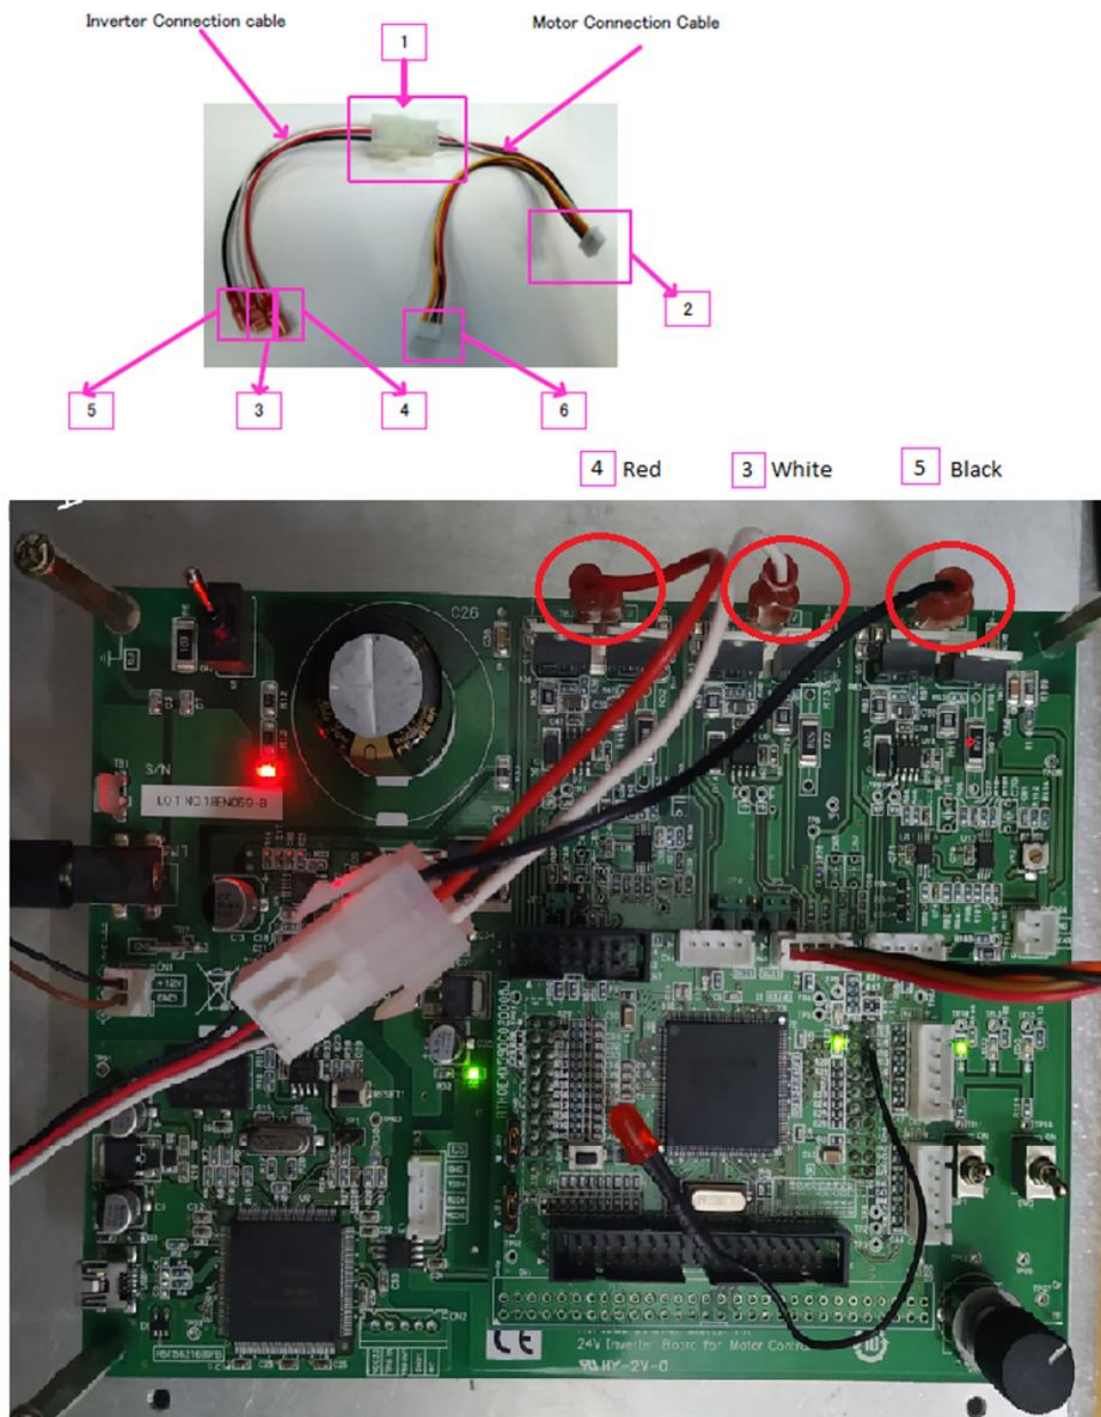

Figure 6. Motor Connection to 24V inverter board
- Figure 6 shows the BLDC motor connection to 24V inverter board